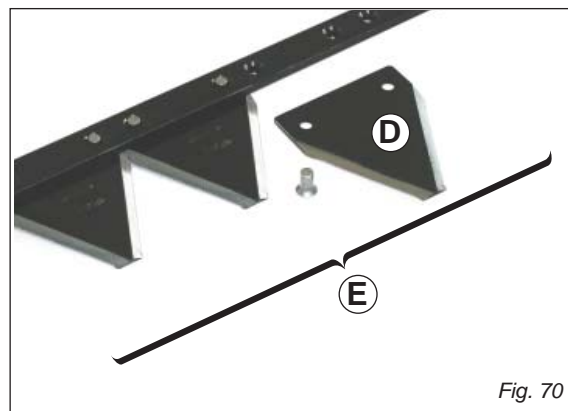

Fig. 70
Replacement of section-holding bar (E, fig. 70)
Replacement of sections (D, fig. 70)
- Rivet a new section with the rivets provided (D, Fig. 70).